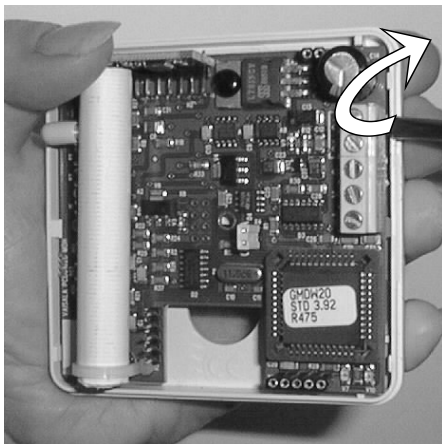

Figure 1 Cable routing
4. Remove the printed circuit board (PCB) by pressing upwards with a screwdriver (see Figure 1 on page 3).